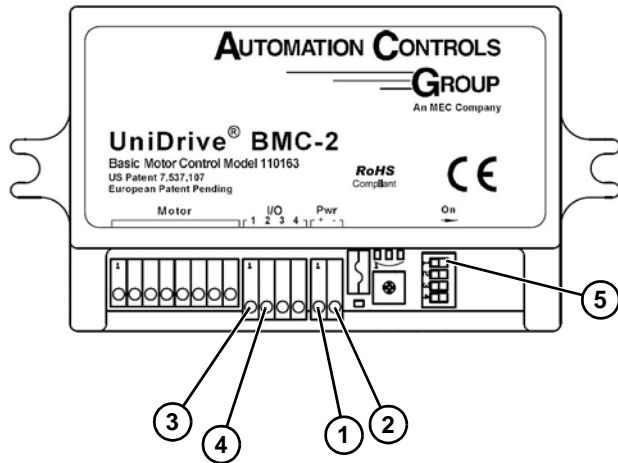

Figure 78
Wire +24 DC (**Figure 78, item 1**) and DC ground (**Figure 78, item 2**) to the driver's power plug.
Supply an PNP input to Smart input 1 (**Figure 78, item 3**) to run motor.
- Dynamically, wire a 2nd PNP input to Smart input 2 (**Figure 78, item 4**). Only one Smart input can be active at a time.
- One time, switch state of dip switch 1 (**Figure 78, item 5**) on the driver board. Dip Switches are only read at start up. After a change is made, cycle power to the unit.